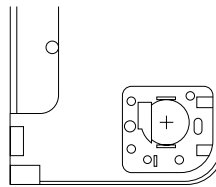

Figure 5
4. Wipe off a new battery with a soft cloth. Then, load it into the compartment making sure that positive (+) side is facing up (so you can see it.) (Figure 5)